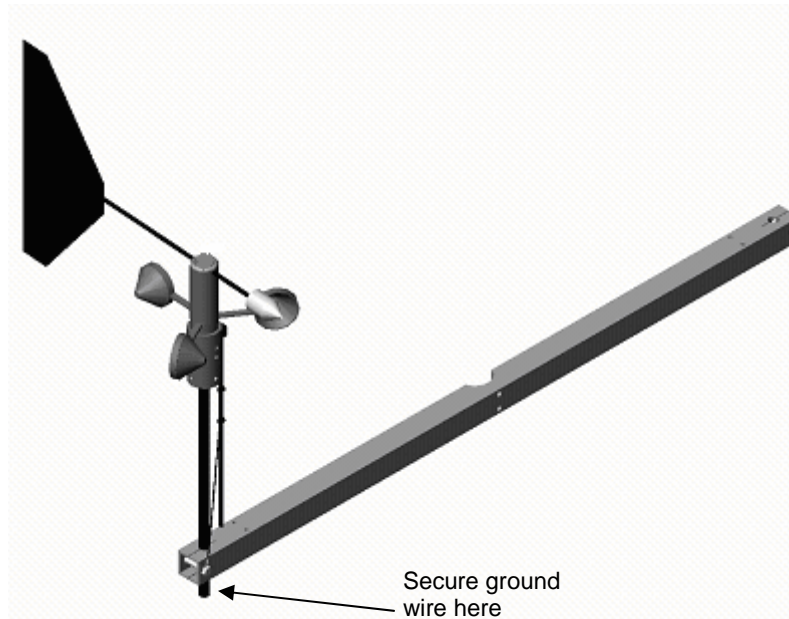

Figure 2: Sensor Mounted on Cross Arm
2. Insert the Wind Speed/Direction smart sensor with mounting pole into the cross arm as shown in Figure 2. Secure the ground wire to the lug nut on the cross arm.